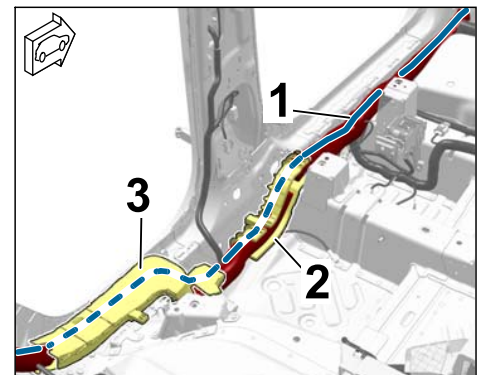

Figure 17
3.2.2 Door sill area, left (⇒ Figure 17)